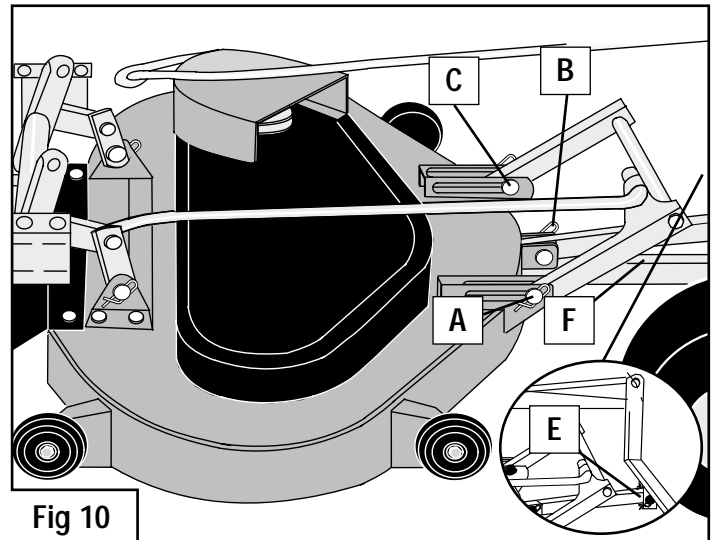

Fig 10
REMOVAL OF CUTTER DECK - Fig 10
7. If you are going to use the Tractor without the deck, remove the Securing Bar (fig 10 – F).